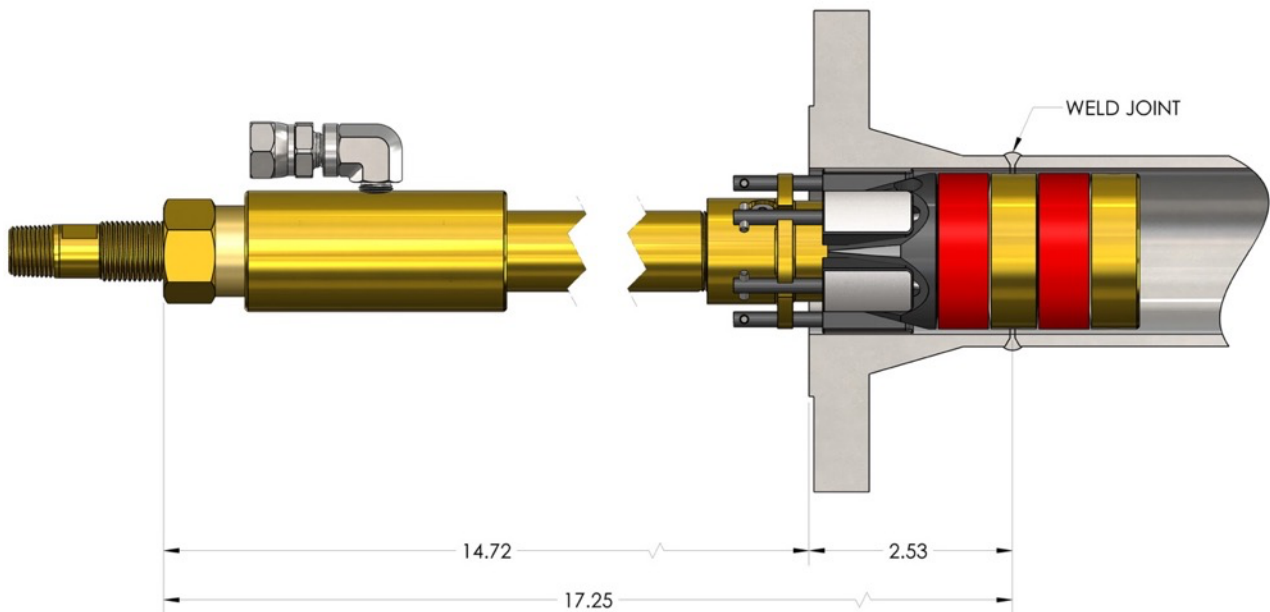

Figure 8: Insertion Depth for Testing Weld
5. Based on the calculation and as illustrated in Figure 8, the plug should be inserted into the fitting until the distance from the top of the **Compression Hex Nut (21)** to the end of the fitting measures 14.72".